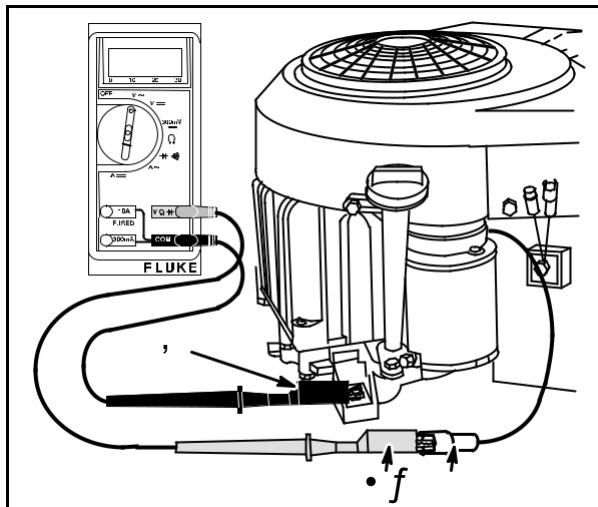

Fig. 24
Attach RED test lead clip (1) to GREEN output terminal (3), **Fig. 24**.